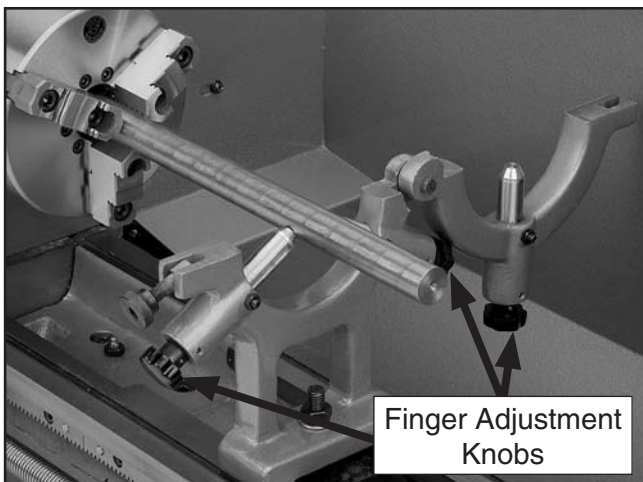

Figure 46. Positioning workpiece in steady rest.
3. Loosen the knurled screw and open the steady rest so a workpiece can fit inside (see **Figure 46**).